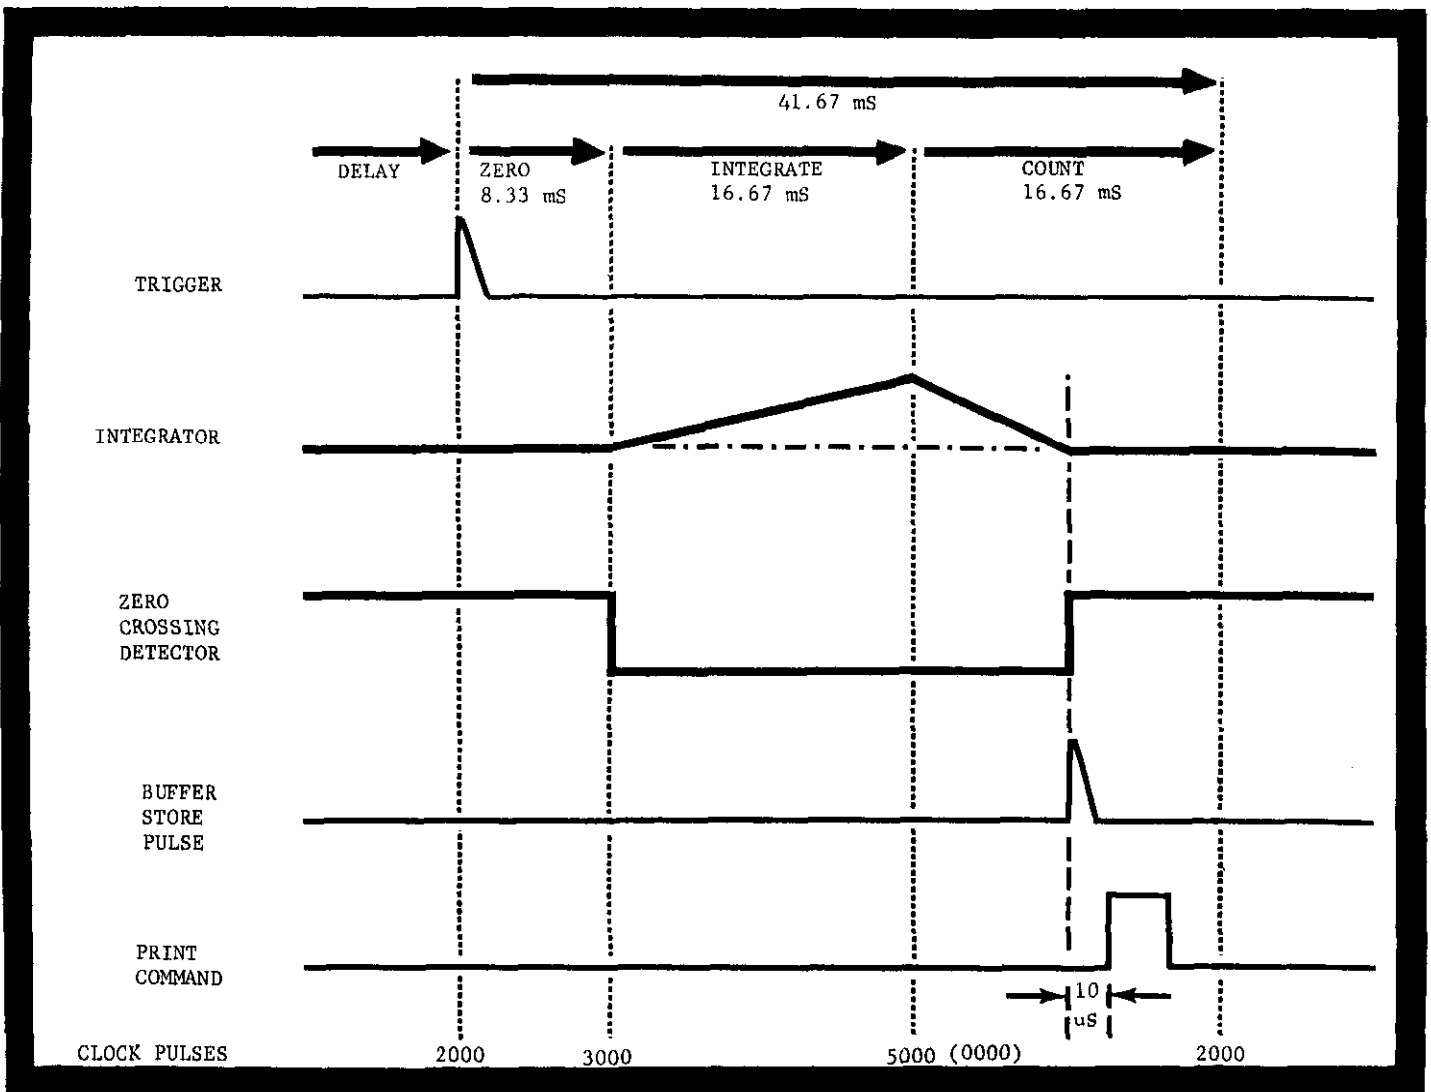
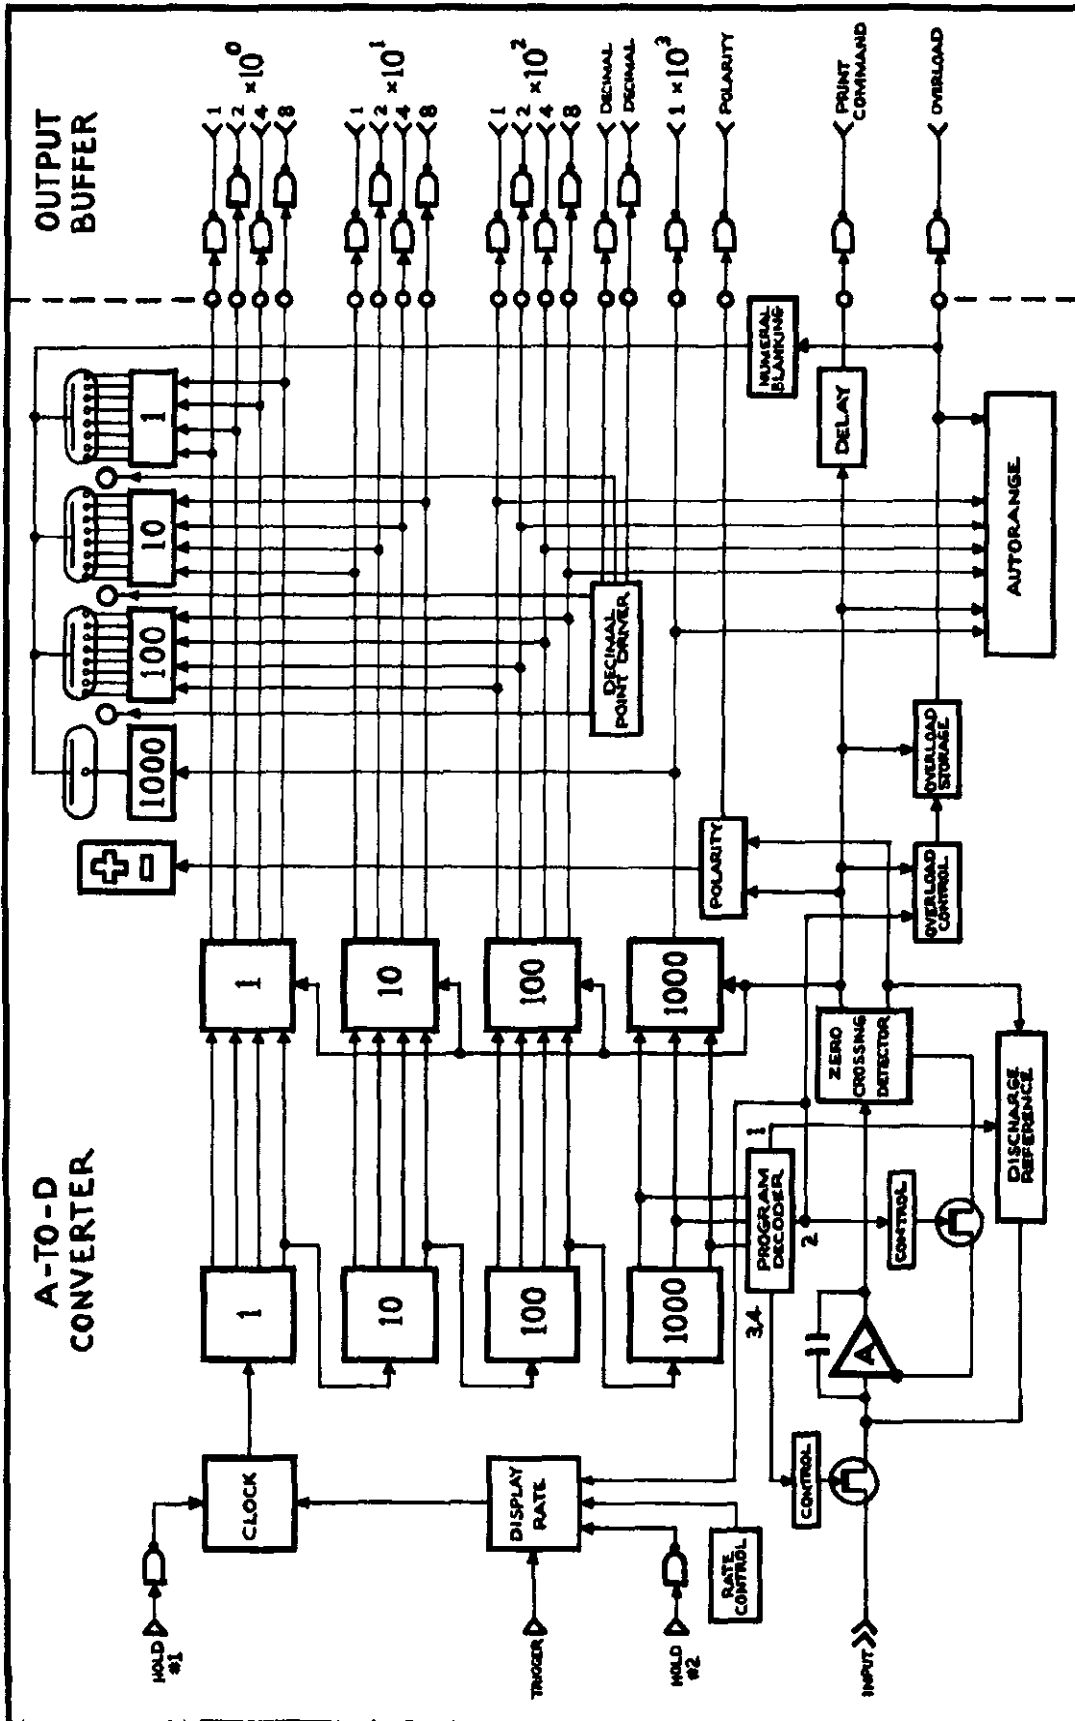

FIGURE 9. Timing Diagram for Model 615.
FIGURE 15. Block Diagram of A/D Converter.
b) Conversion Cycle Timing. The Conversion Cycle is composed of three timing periods, namely, Integrator Zero, Integrator Sampling, and A-D Counting period. Refer to Timing Diagram Figure 9.
a. General (refer to Figure 15 for a detailed block diagram of the A-to-D converter). The analog-to-digital converter operates using a dual slope integration technique which has inherent line frequency noise rejection. The analog signal is applied to the integrator for one complete line frequency cycle, therefore integrating the line frequency noise. The analog signal is then removed from the integrator input. The voltage on the integrator is then driven to zero to complete the voltage-to-time conversion. The time interval to reach a "Zero Crossing" is counted and displayed on the "Readout" in proportion to the original analog signal. The sequence is then repeated for a second reading. (Refer to the Timing Diagram shown in Figure 9).
g. Integrator. The Integrator circuit operation is composed of three periods (refer to Figure 9).